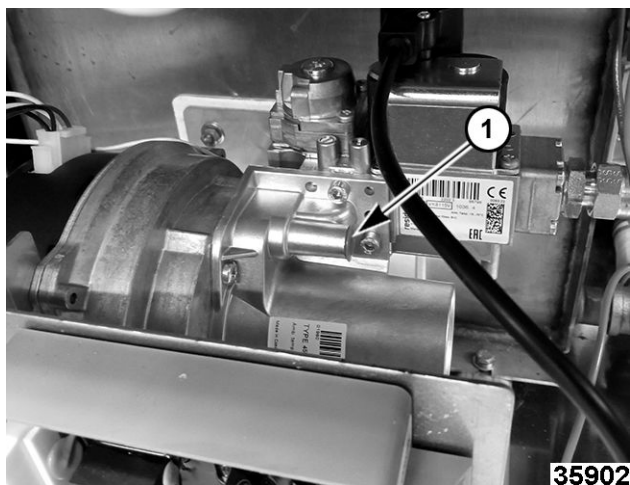

Fig. 51
- A. Remove cap over throttle screw (Fig. 51).